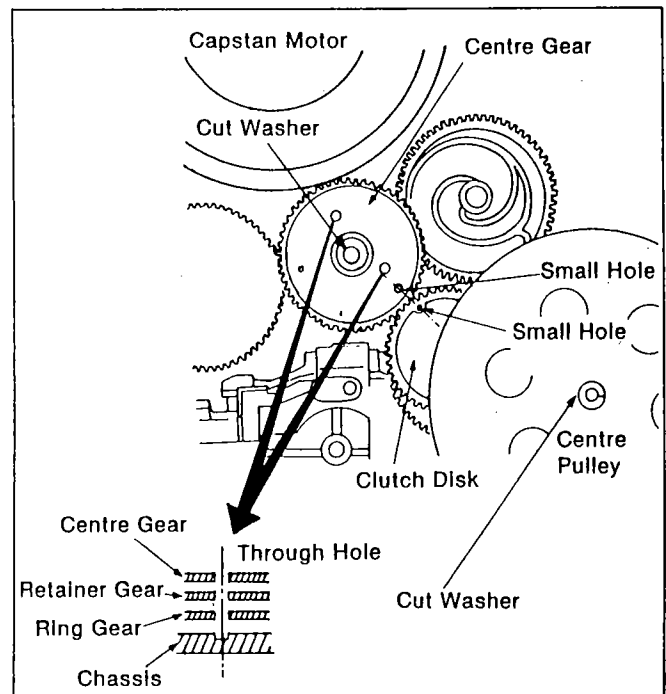

Figure M42
1. Install the Center Gear onto the Retainer Gear so that the two holes in the Center Gear align with the holes on the Retainer Gear, then install the cut washer as shown in Figure M42.
2. Install the Clutch Disk so that the small outside hole on the Center Gear aligns with the small outside hole on the Clutch Disk, then insert the cut washer as shown in Figure M42.